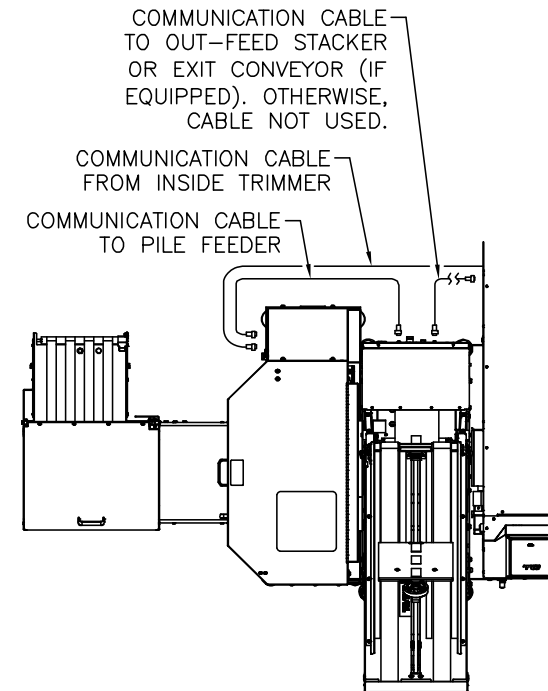

Figure 2-17. Comm. Cable Connections
5. Connect the communication cables as shown in Figure 2-17.